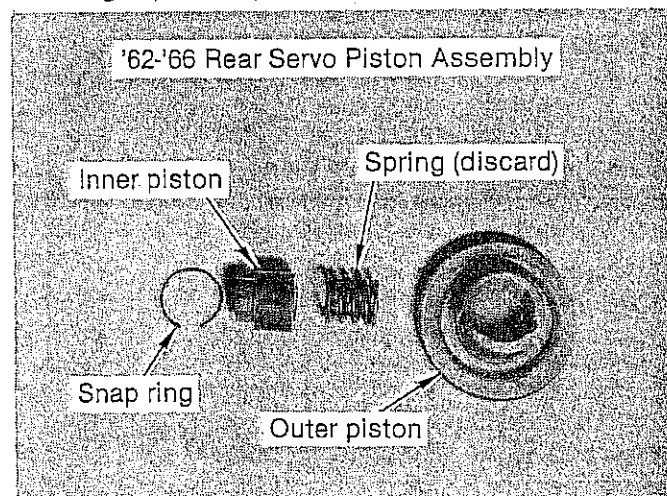

FIGURE 48
**'62-'66 models:** (See Fig. 48) Install inner piston into place inside piston assembly. Install retaining clip. Inner piston is now free to move.